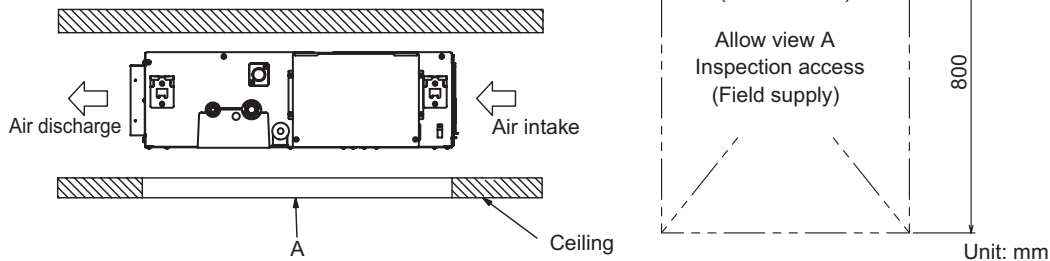

Fig. 2-96
- (1) Confirm the positional relationship between the unit and suspension bolts. (Fig. 2-96)